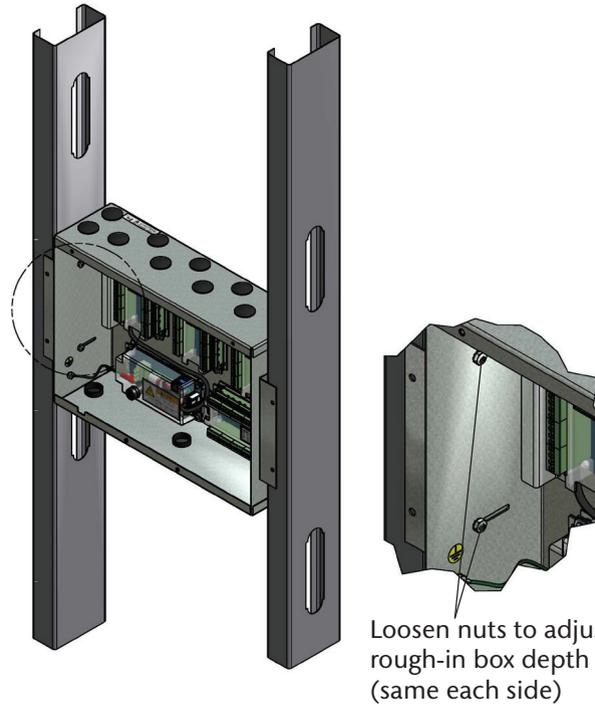

Figure 2: Mounting Bracket Adjustment
3. Mounting brackets on each side of rough-in box are adjustable and factory preset for 5/8" thick drywall. After drywall installation, front edge of back box should be flush with finished surface of wall. If needed, make any necessary bracket adjustments at this time (Figure 2).